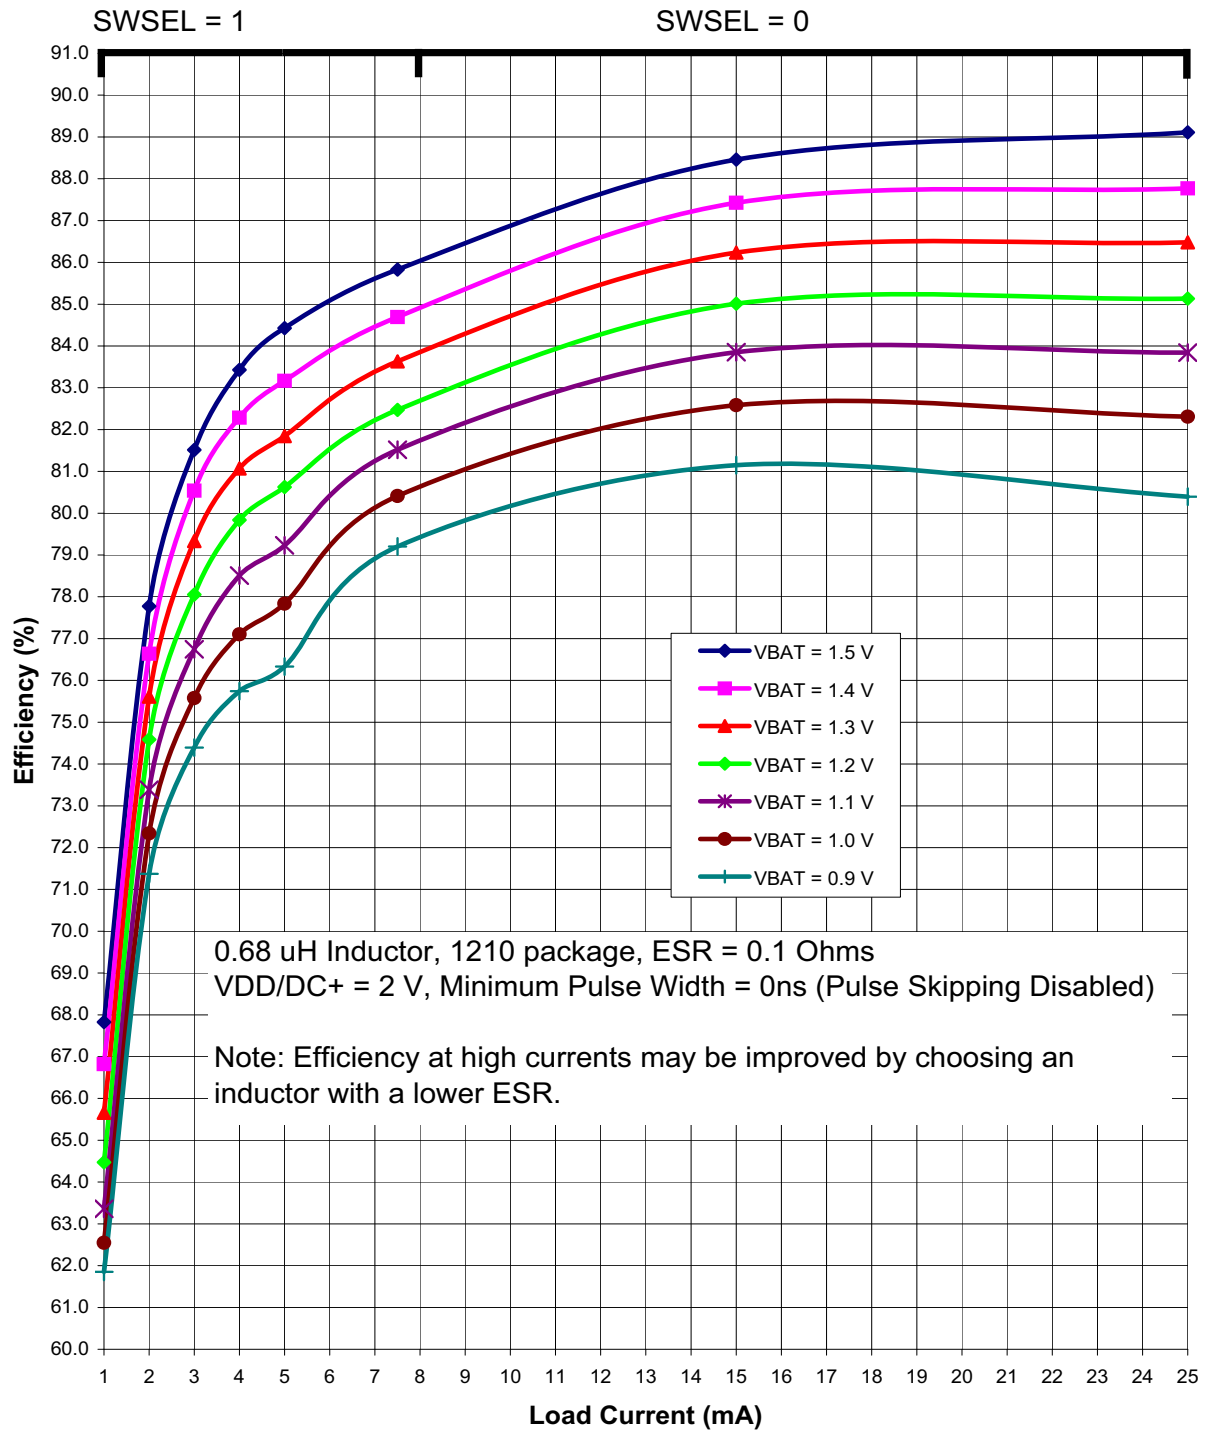
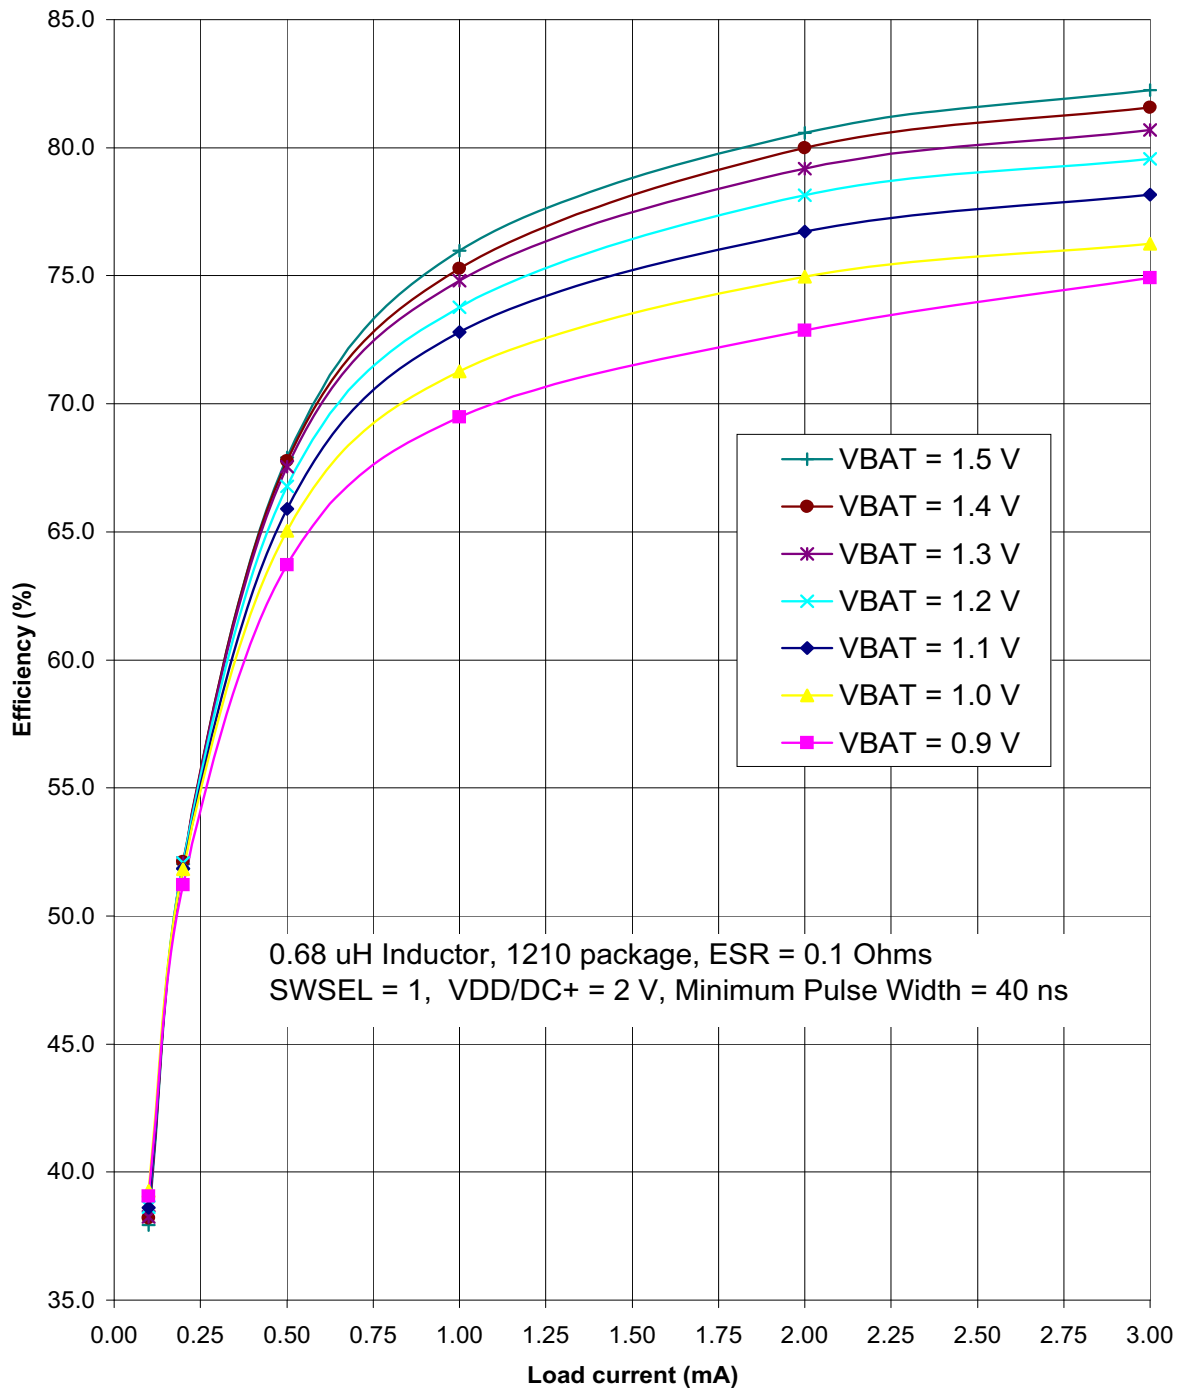

Figure 4.3. Typical DC-DC Converter Efficiency (High Current, VDD/DC+ = 2 V)
Figure 4.5. Typical DC-DC Converter Efficiency (Low Current, VDD/DC+ = 2 V)
<ol style="list-style-type: none"> 1. Based on device characterization data; Not production tested. 2. SYSCLK must be at least 32 kHz to enable debugging. 3. Digital Supply Current depends upon the particular code being executed. The values in this table are obtained with the CPU executing an "sjmp \$" loop, which is the compiled form of a while(1) loop in C. One iteration requires 3 CPU clock cycles, and the Flash memory is read on each cycle. The supply current will vary slightly based on the physical location of the sjmp instruction and the number of Flash address lines that toggle as a result. In the worst case, current can increase by up to 30% if the sjmp loop straddles a 64-byte Flash address boundary (e.g., 0x007F to 0x0080). Real-world code with larger loops and longer linear sequences will have few transitions across the 64-byte address boundaries. 4. Includes oscillator and regulator supply current. 5. IDD can be estimated for frequencies ≤ 14 MHz by simply multiplying the frequency of interest by the frequency sensitivity number for that range, then adding an offset of 90 μA. When using these numbers to estimate I_{DD} for > 14 MHz, the estimate should be the current at 25 MHz minus the difference in current indicated by the frequency sensitivity number. For example: $V_{DD} = 3.0$ V; $F = 20$ MHz, $I_{DD} = 4$ mA – $(25 \text{ MHz} - 20 \text{ MHz}) \times 0.102 \text{ mA/MHz} = 3.5$ mA assuming the same oscillator setting. 6. The supply current specifications in Table 4.2 are for two cell mode. The VBAT current in one-cell mode can be estimated using the following equation: $\text{VBAT Current (one-cell mode)} = \frac{\text{Supply Voltage} \times \text{Supply Current (two-cell mode)}}{\text{DC-DC Converter Efficiency} \times \text{VBAT Voltage}}$ <p>The VBAT Voltage is the voltage at the VBAT pin, typically 0.9 to 1.8 V. The Supply Current (two-cell mode) is the data sheet specification for supply current. The Supply Voltage is the voltage at the VDD/DC+ pin, typically 1.8 to 3.3 V (default = 1.9 V). The DC-DC Converter Efficiency can be estimated using Figure 4.3–Figure 4.5.</p> 7. Idle IDD can be estimated by taking the current at 25 MHz minus the difference in current indicated by the frequency sensitivity number. For example: $V_{DD} = 3.0$ V; $F = 5$ MHz, Idle $I_{DD} = 2.1$ mA – $(25 \text{ MHz} - 5 \text{ MHz}) \times 0.079 \text{ mA/MHz} = 0.52$ mA.